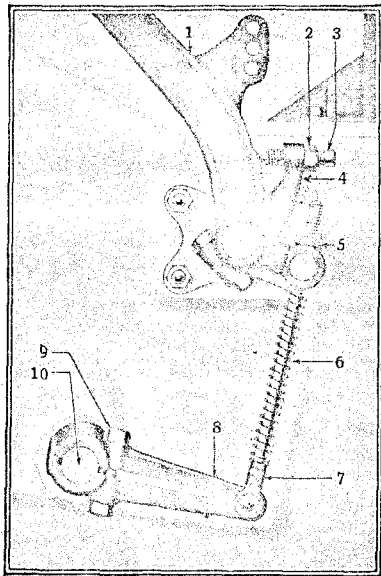

Fig. 31
result in buckled or warped clutch plates. The clutch pedal is adjusted when the car leaves the factory and should need no further attention until the facing on the discs has worn so that although the pedal will return to its normal position the discs are prevented from fully engaging by the set screw stop (3) Fig. 31. This condition causes slipping and rapid wear. To determine if the pedal is correctly adjusted, press down on the pedal pad. There should be approximately one inch free travel before the pressure of the clutch spring can be felt and the clutch starts to disengage.
Turn the nut (5) Fig. 31 anti-clockwise or upward one half revolution at a time, until the clutch pedal will move forward approximately one inch (measured at the foot pad) before commencing to release the clutch.